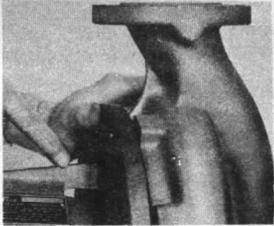

FIGURE 1
10. Reassemble bracket into pump casing using new gasket provided. Clean gasket surface of both casing and bracket if necessary. Be sure that the longer of the two outside bracket ribs is on top. (see Figure 1)